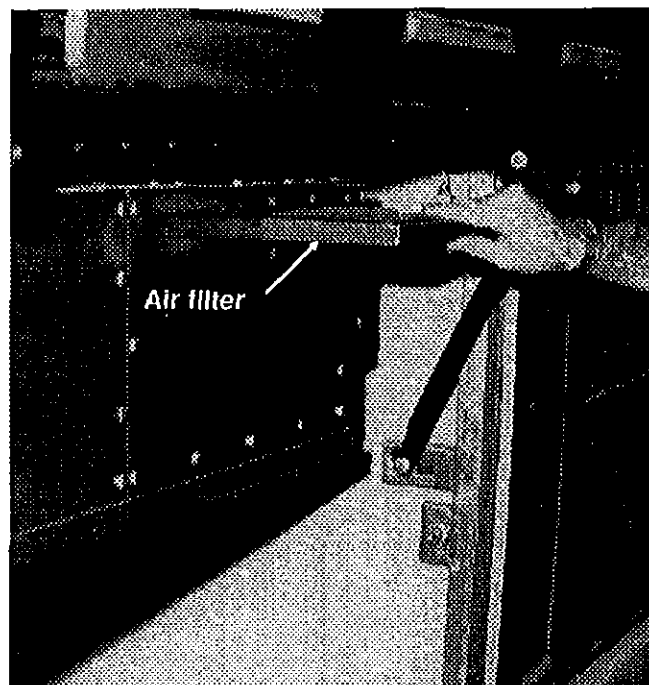

FIG. 10
2. Pull on the filter and discard it (see fig. 10).